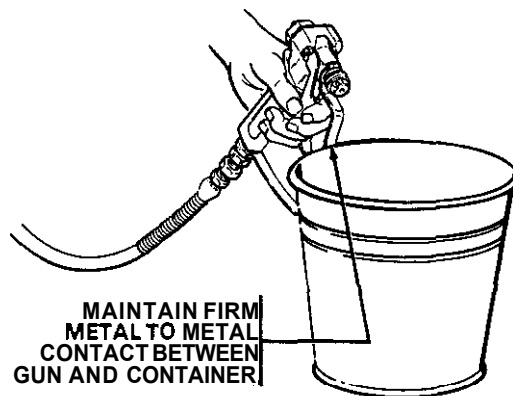

Fig 5
- f. Hold a metal part of the gun firmly against and aimed into a metal waste container. See Fig 5. Squeeze the trigger and hold it open, turn the ON/OFF switch to ON, and slowly increase the pressure setting until the sprayer starts. Keep the gun triggered until all air is forced out of the system and the paint flows freely from the gun. Release the trigger and engage the safety.